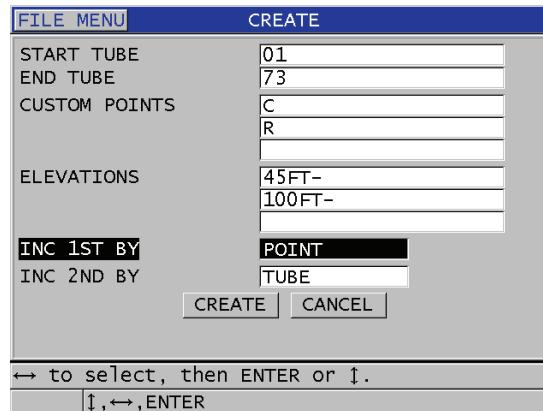

Figure 11-13 Configuring the ID range for a boiler data file type
3. In the second page of the **CREATE** screen (see Figure 11-13 on page 172):